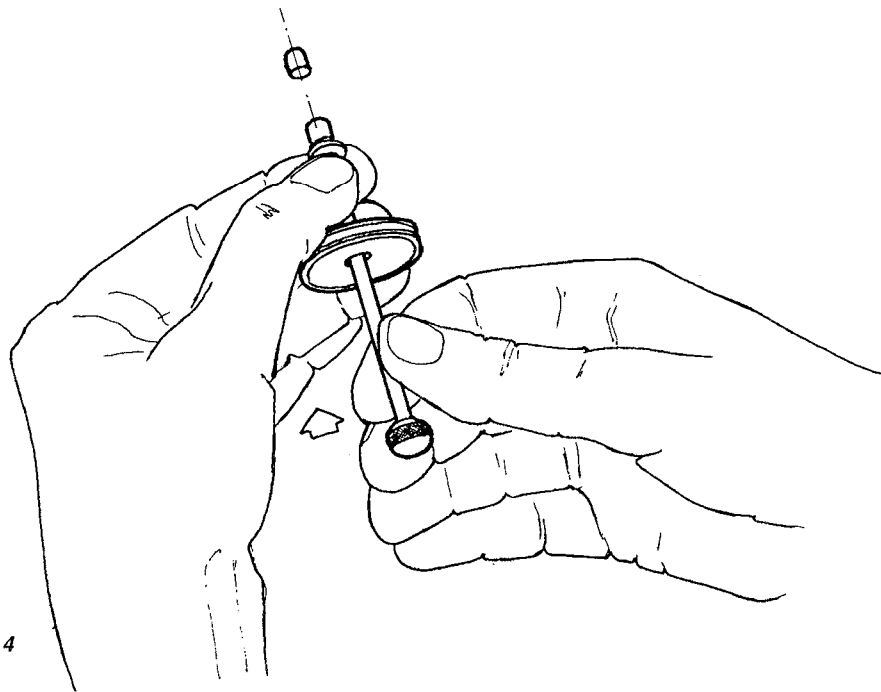

FIG. 4
- 7. Remove the piston seat (88) from piston with tool (B-22). (Fig. 4).